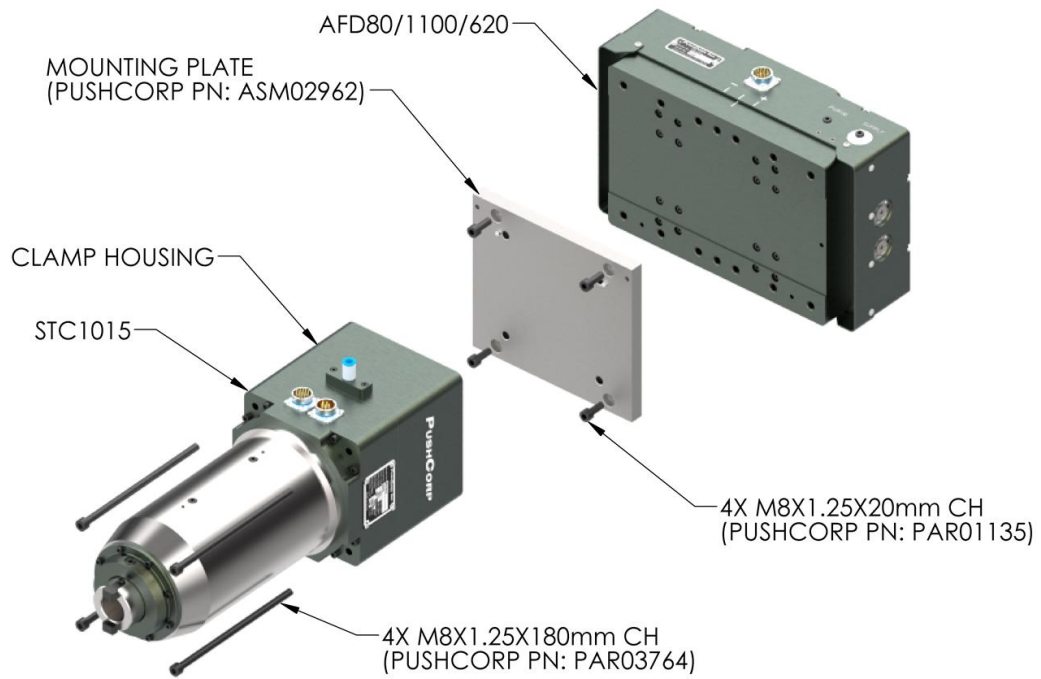

FIGURE 1: STC1015 PERPENDICULAR AXIS CONFIGURATION
To attach the STC1015 to an AFD in a Perpendicular-Axis configuration, position the Clamping Housing over the Carriage as shown in Figure 1. Then secure the unit using four (4), M8x1.25x180mm, Socket Head Cap Screws. Tighten the fasteners to the torque specified in Section 4.0.